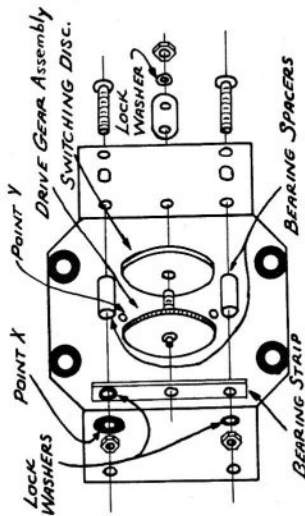

Fig. 8—Assembly Illustration
4. Insert drive gear assembly through proper hole in servo case. Place back bearing strip on drive shaft and mount this strip to case using the two bearing spacers as supports. See Figure 8. This gear should spin freely and be parallel to the back of the servo case.